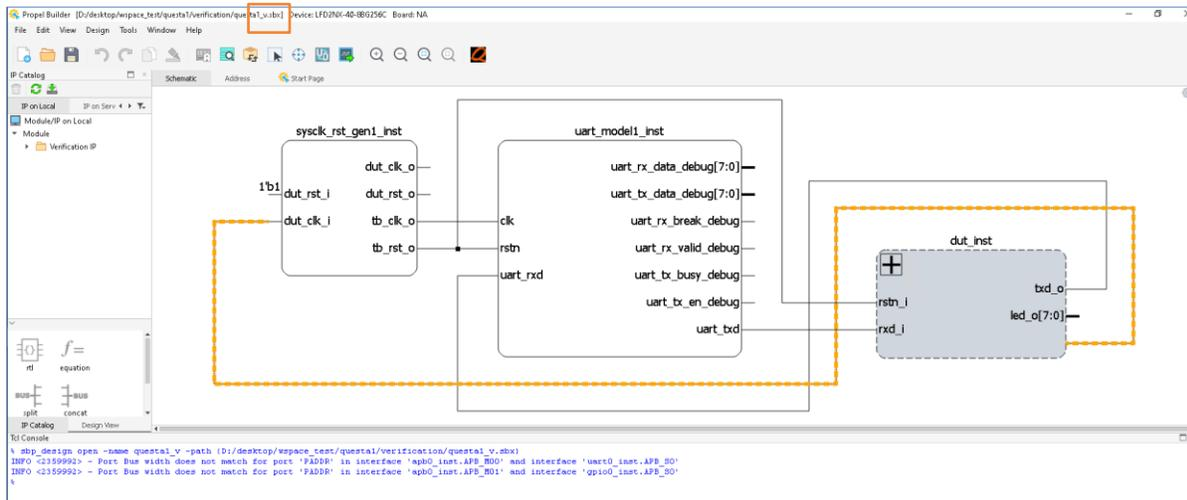

Figure 2.153. Generate Simulation Environment on Verification Project
- In verification project view, click **Generate** icon  in the Propel Builder Toolbar (Figure 2.153). If prompted with INFO: The simulation environment has been created in the TCL counsel, then the testbench is generated in: `<project_name>/verification/sim`.
- SoC design project is called `***.sbx`. Verification project is called `***_v.sbx` (Figure 2.153).